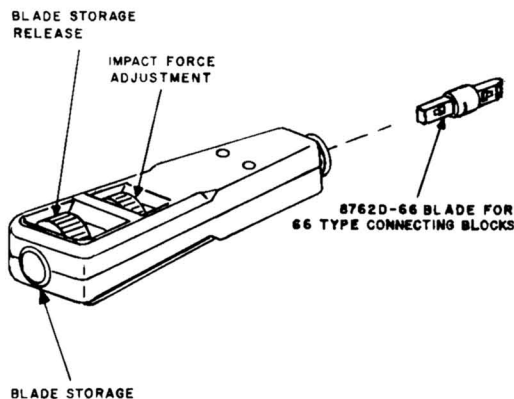
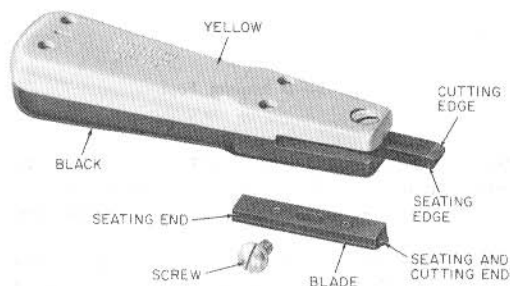
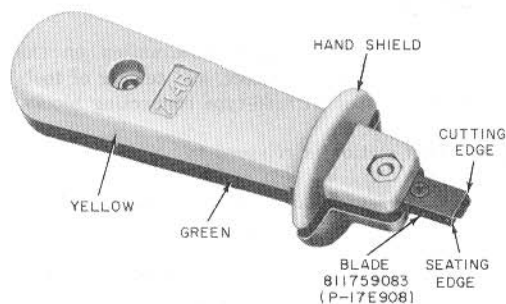

Fig. 1—D Impact Tool
Fig. 2—B Impact Tool (MD)
Fig. 3—714B Tool
2.01 The D impact tool (Fig. 1), the B impact tool (MD) (Fig. 2), and the 714B tool (Fig. 3) are used to make terminations on 66-type connecting blocks. The D impact tool is recommended for use in installations where numerous cutdowns are required. The 714B is intended for occasional or intermittent use.
2.02 The D impact tool (Fig. 1) consists of a handle with a switchable dual force impact mechanism, a blade release switch, and a cavity for storing a spare blade. The handle is designed to accept three different type blades, one of which is the 8762D-66 blade designed for use with the 66-type connecting block.
**2.08** The B impact tool (Fig. 2) consists of a reversible steel blade attached by a single screw to a plastic handle. One end of the blade is used for seating and cutting conductors while the other end is used for seating only. A spring mechanism inside the handle controls the amount of force the installer must exert to terminate and cut wires.
**2.11** The 714B (Fig. 3) is similar to the B impact tool except that it does not have an adjustable impact mechanism. It has a hand shield and is yellow and green instead of yellow and black.